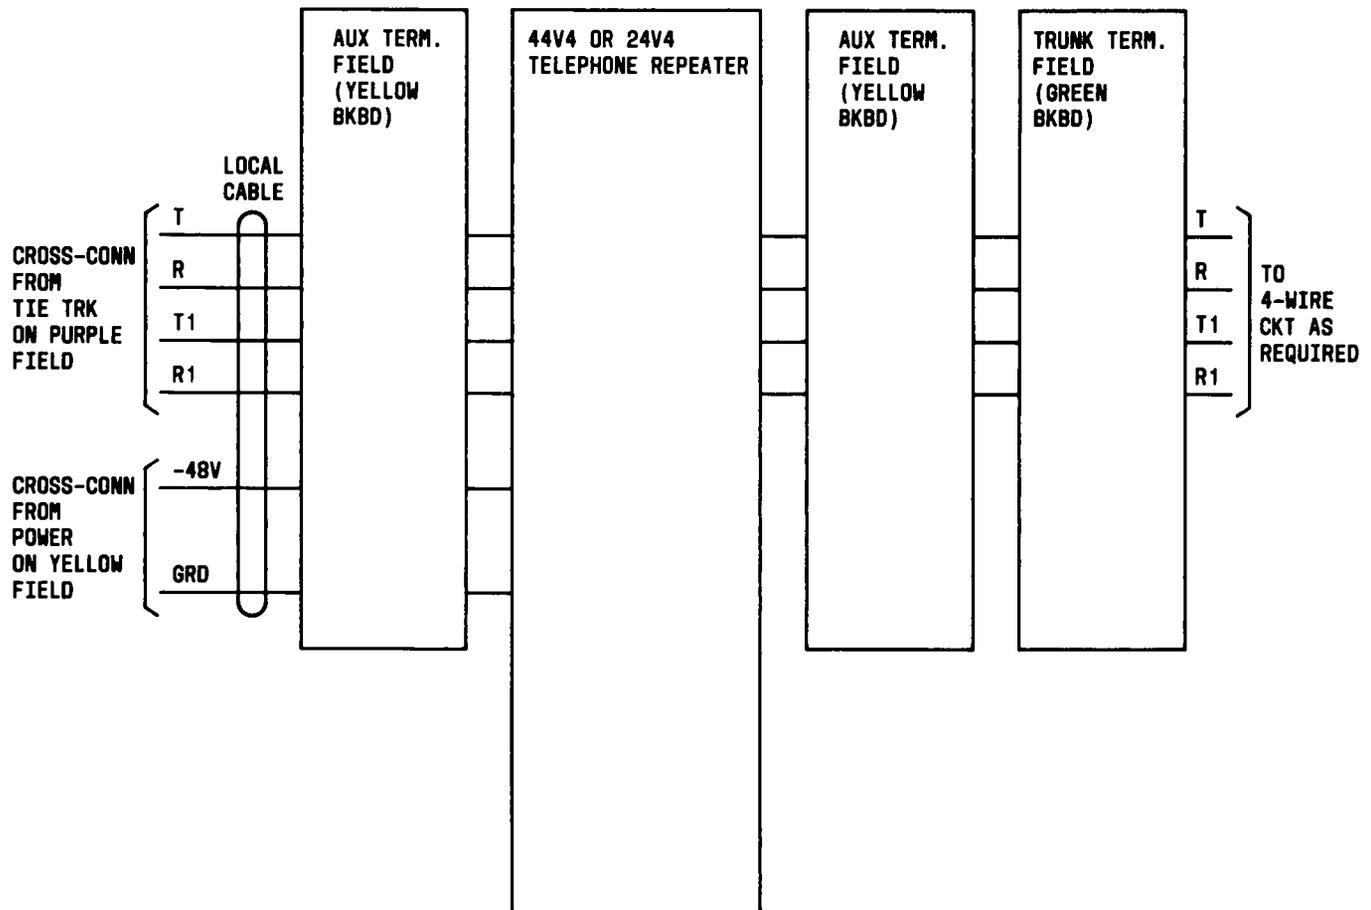

Fig. 42—44V4 or 24V4 Repeater Connections
the repeater, a 1400-ohm resistor (228A) should be used between each -48V source and battery connection on the repeater. An example of 44V4 repeater connections is shown in Fig. 42.
6.67 The 24V4 repeater is designed to interface 900-ohm or 600-ohm 2-wire CO equipment using loaded or nonloaded cable. It consists of a mounting shelf which holds plug-in components and test jacks. If there is no MFT 2-wire repeater available, the telephone company may wish to use the 24V4 repeater for voice and data transmission. An example of the 24V4 repeater connections is shown in Fig. 42.